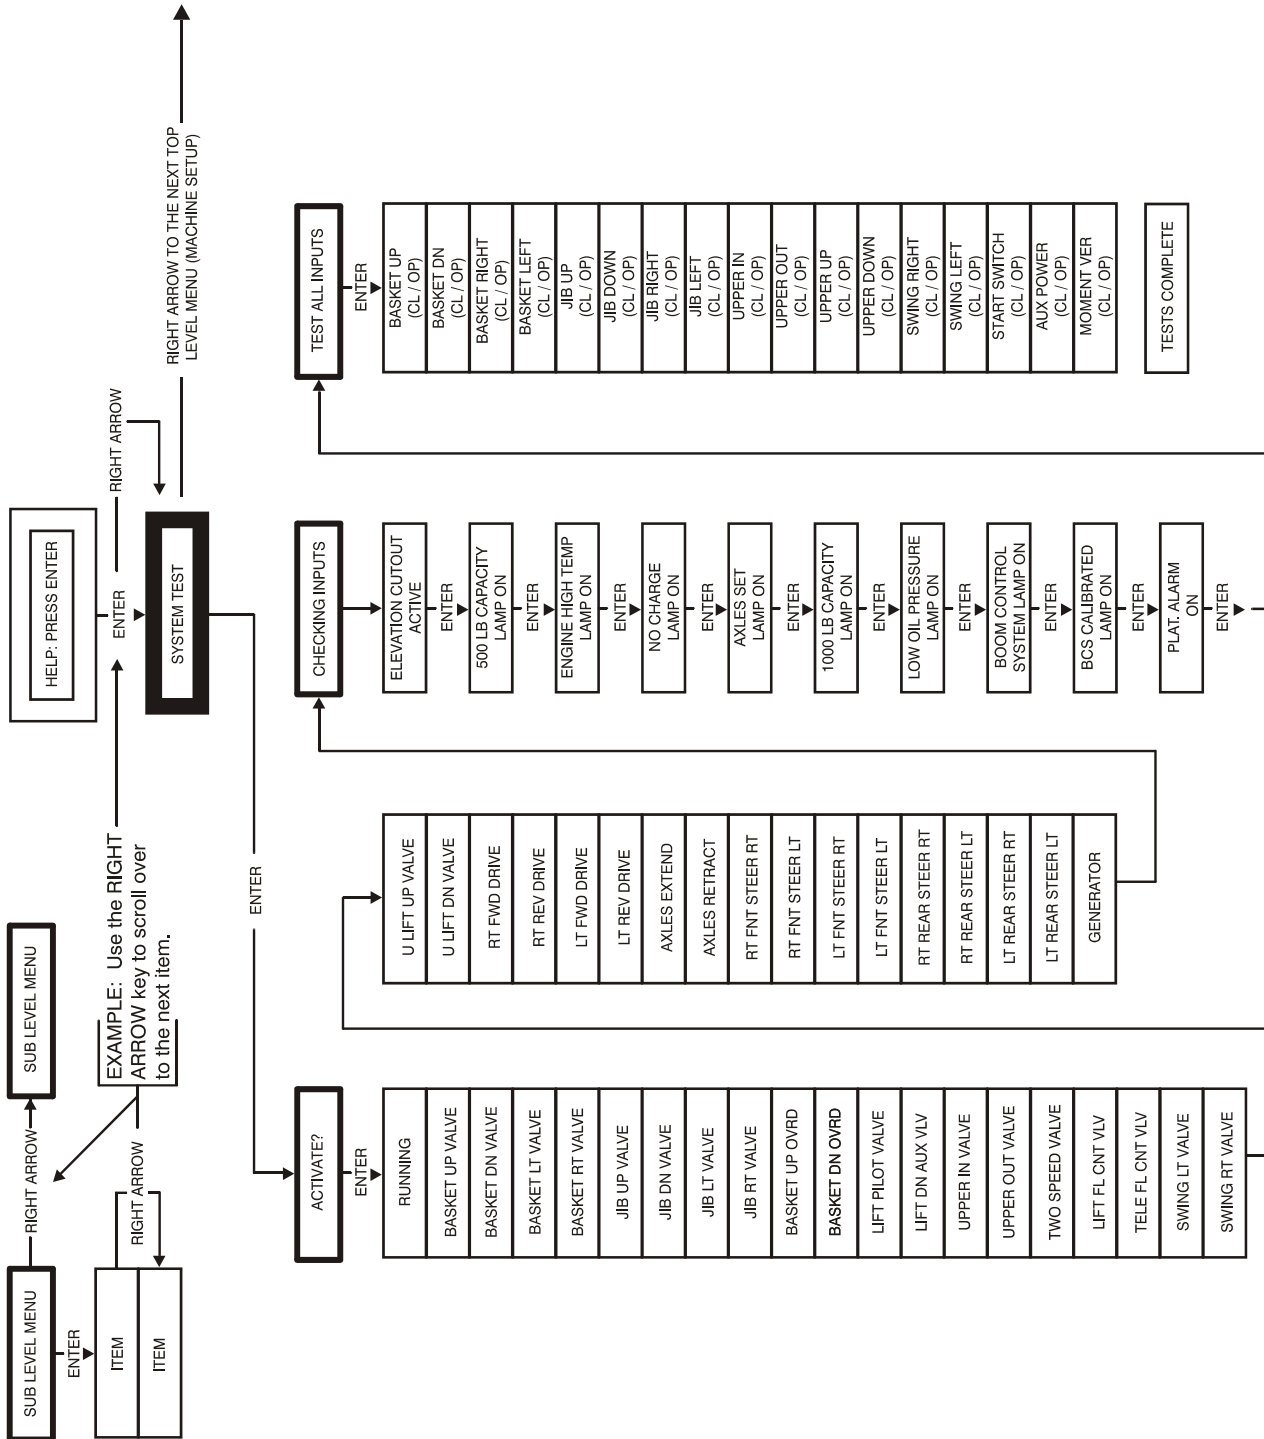

Figure 6-13. System Test Flow Chart - Ground Station Tests
6. Follow the flow path in Figure 6-13., System Test Flow Chart - Ground Station Tests and go through the component tests. Hit the ESC key during any part of the test to return to the main menu without completing all tests or wait until all tests are complete. During the TEST ALL INPUTS sequence, the analyzer allows control switches to be operated and shows if they are closed (CL) or open (OP).